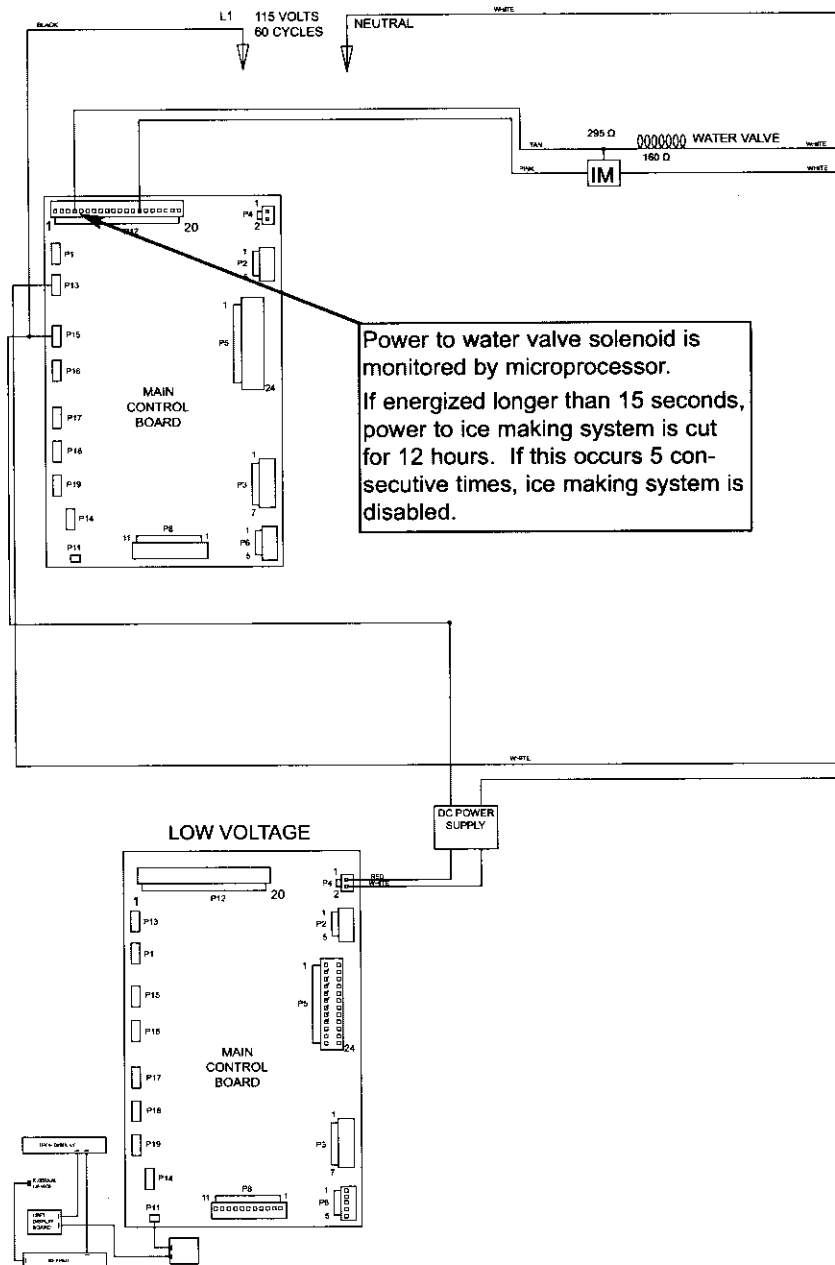
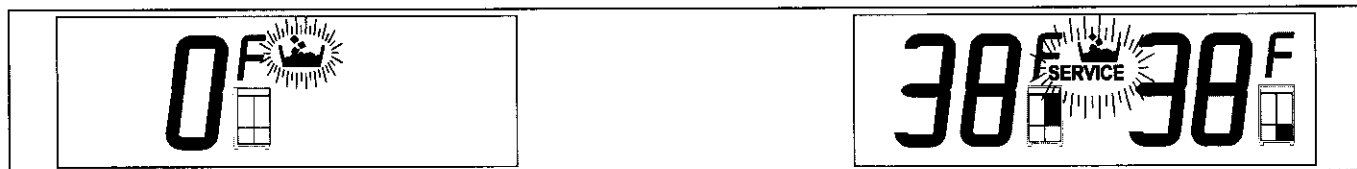

Figure 3-28. Signal Trace Schematic of Icemaker Electrical System
Figure 3-29. ICE & SERVICE Flashing = Solenoid Energized 15 sec., every 12 hrs., 5 Consecutive Times
The microprocessor observes the voltage supplied to the icemaker water valve solenoid. If the solenoid is energized for more than fifteen (15) seconds, power to the icemaker system is disabled for 12 hours (See Figure 3-28), and an error code is logged. If this happens five consecutive times, ice making icons in both User Displays and the SERVICE icon in the right User Display will flash, indicating the ice making system is now disabled (See Figure 3-29).